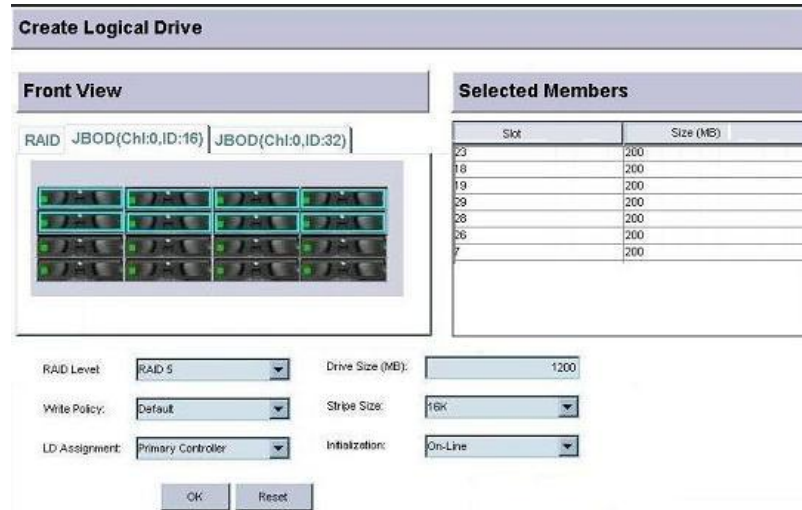

Figure 9-2: The Create Logical Drive Window
Step 2. The configuration screen shown in *Figure 9-2* should appear.